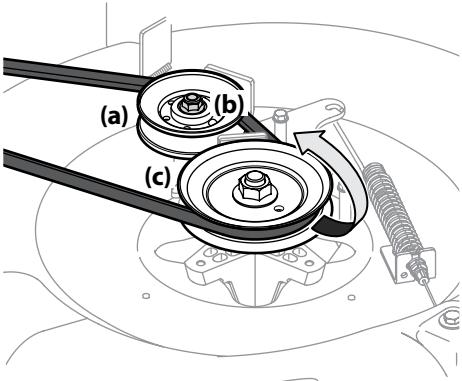

Figure 4-15
7. Loosen the idler pulley (24" decks only) (a) by loosening the flange lock nut (b) that secures it, enough to allow clearance for the belt to move past it and off. Remove the belt by working it off of the deck drive pulley (c) and idler pulley (a). See Figure 4-15.